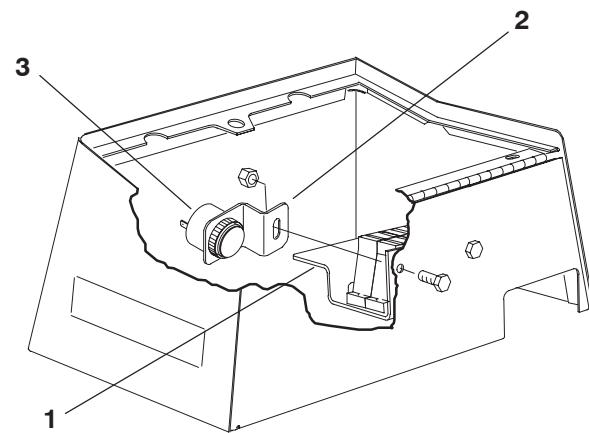

Figure 8
- Remove front capscrew and locknut securing fuse block bracket to side of control console (Fig. 8).
- Mount alarm bracket to fuse block bracket with capscrew and locknut previously removed. Position bracket and alarm as shown in figure 8.